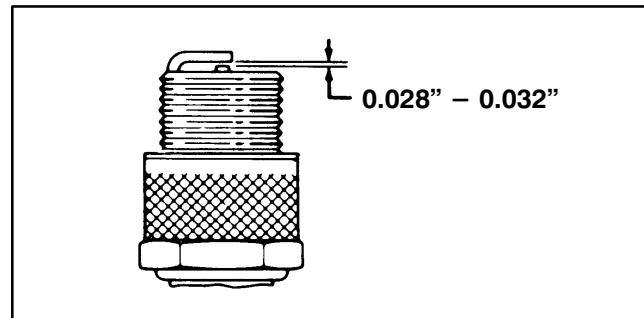

Figure 31
- 3. Set air gap at 0.028" – 0.032" (Fig. 31). Install correctly gapped spark plug and tighten firmly to 17 ft-lb.